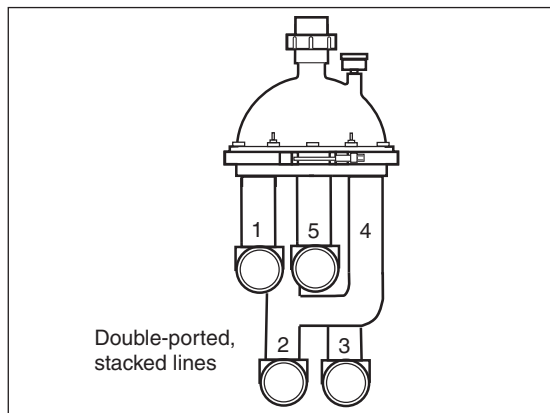

Figure 6. Double-Ported Stacked Lines
**NOTE: When plumbing the valve, skip a port (ie. tie port #2 to port #4, not #3) when double porting, as shown in Figure 6.**